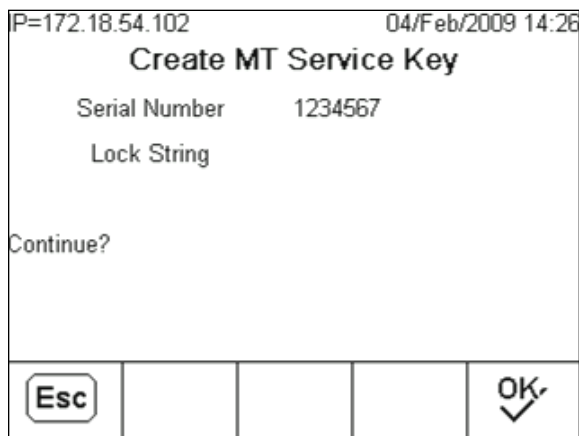

Figure 3-177: Create MT Service Key Screen
2. Press the UNLOCK softkey  to access the Create MT Service Key screen (Figure 3-177).